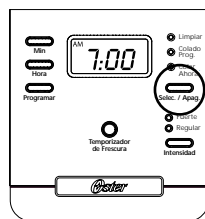

figure 7
3. To activate the delay brew function and program your coffee maker to brew coffee at a later time, press the select “Selec./Apag.” button twice (Figure 7). The delay brew “Colado Program.” light will illuminate. The coffee maker is now set to automatically brew coffee at the pre-set time. At this time the brew strength light will turn on. You can select the strength that you desire by pressing the brew strength “Intensidad” button.